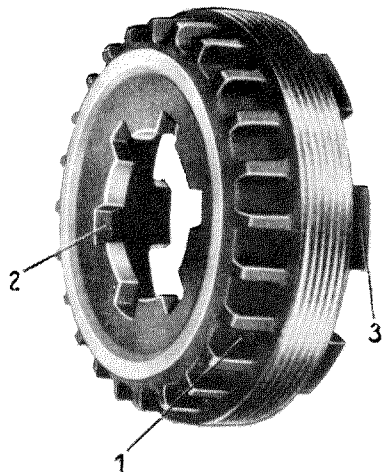

Fig. 35 — 4/31
79. Screw the threaded ring right home into the left axle tube (see Fig. 35 — 4/31). Then press in the outer race of the taper roller bearing, using Assembly Arbor 180 589 04 39.
80. Put the differential housing (21) into the rear axle housing and screw the left axle tube to the rear axle housing (see Fig. 35 — 4/21).
**Note:** The notches (1) of the threaded ring are visible through the bore for the locking screw (Fig. 35 — 4/31).